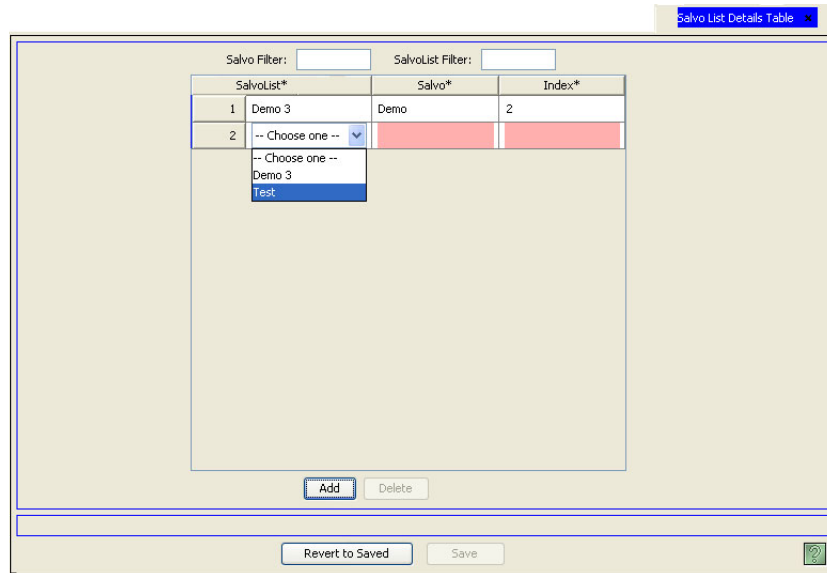

Figure 15-15. Salvo List Details Table
- 1 From the Navigation area, select the 'Views' pane and then 'Salvo List Details'. The 'Salvo List Details' table appears, as shown in Figure 15-15.